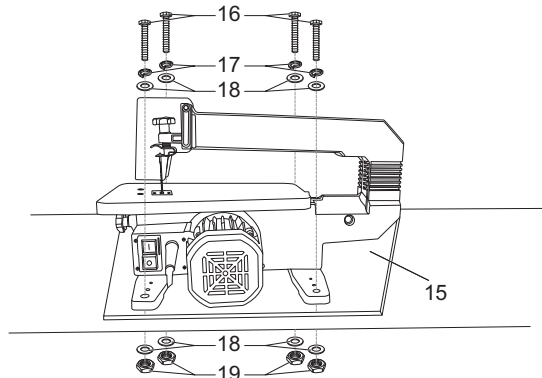

Fig. 3
Your scroll saw is provided with 4 mounting holes (10), and it is strongly recommended that you mount the machine on a solid surface. In order to reduce noise and vibration, a pad (15) between the saw and the workbench is further recommended. The best dimensions being - 24" x 12" x 1/2". Insert the bolts M8 x 50mm (16), spring washers M8 (17), flat washers M8 (18) and nut M8 (19) into the holes in turns as shown in Fig. 3. If this is done, do not over-tighten the mounting bolts with 13mm spanner (not supplied) but leave some vibration absorbing "cushion" in the pad.